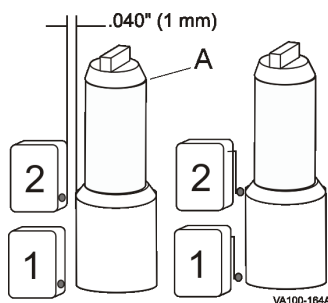

Figure 16 - Valve Open Adjustment
3. With the stem raised, adjust the vertical height of the upper switch target to slightly below the stem shoulder (Figure 16). Tighten the cap screws securely.